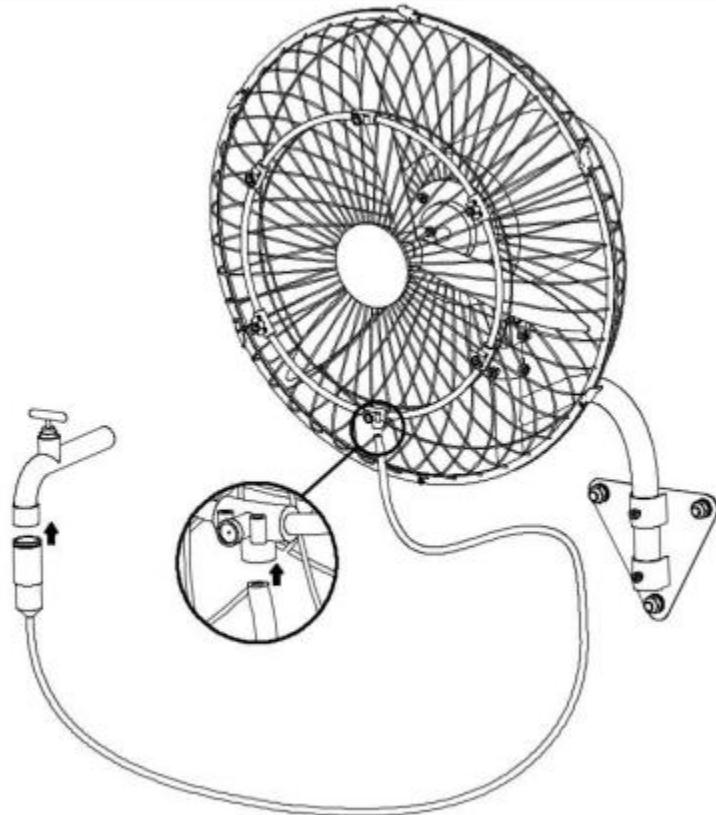

Fig.11.
2). Connect the water pipe to the faucet and the spray nozzle respectively, and tighten the faucet.See the (Fig.11.) Done!